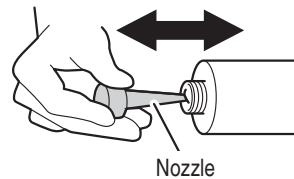

Fig. 18
- (2) Remove the nozzle and use the cut end to break the membrane inside the cartridge, then return it to its original position. (Fig. 18)